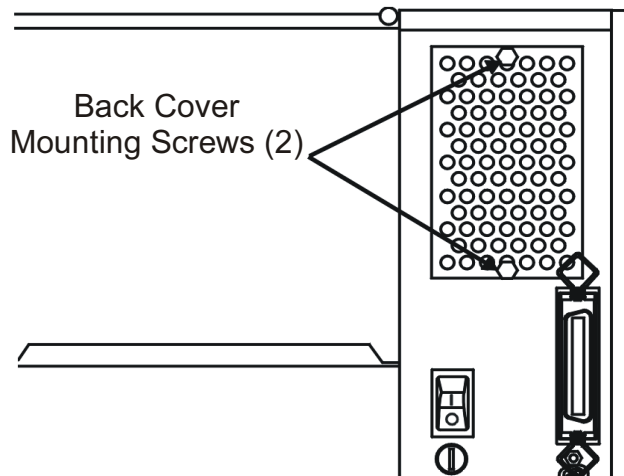

Figure 3. Back Cover Mounting Screws
3. Loosen and remove the two screws that secure the cover on the back of the printer. Remove the cover. Save the two screws that will secure the new memory option cover (see Figure 3).